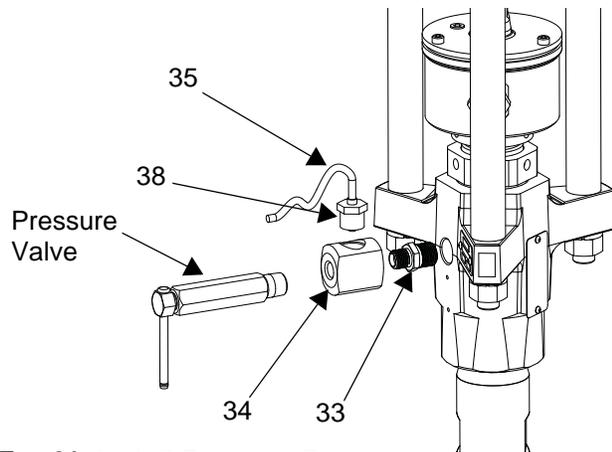

FIG. 61: Install Pressure Sensor
- b. Apply the supplied sealant to the adapter (33), the manifold (34), and the pressure valve. Install all three in the order listed. See FIG. 61.
- d. Install the o-ring (38) and pressure sensor (35); use zip ties (32) to secure the cable to the ram and air hose.